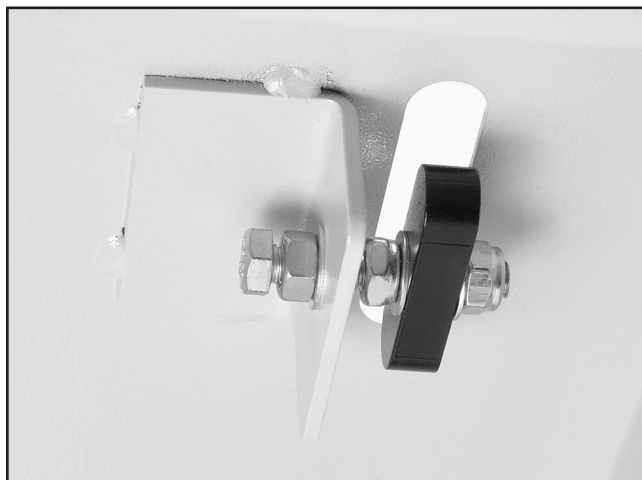

Figure 45. Crosscut fence adjustment screw.
2. Place a framing square along the edge of the sliding table and use the crosscut fence adjustment screw (**Figure 45**) to align the fence perpendicular to the sliding table.